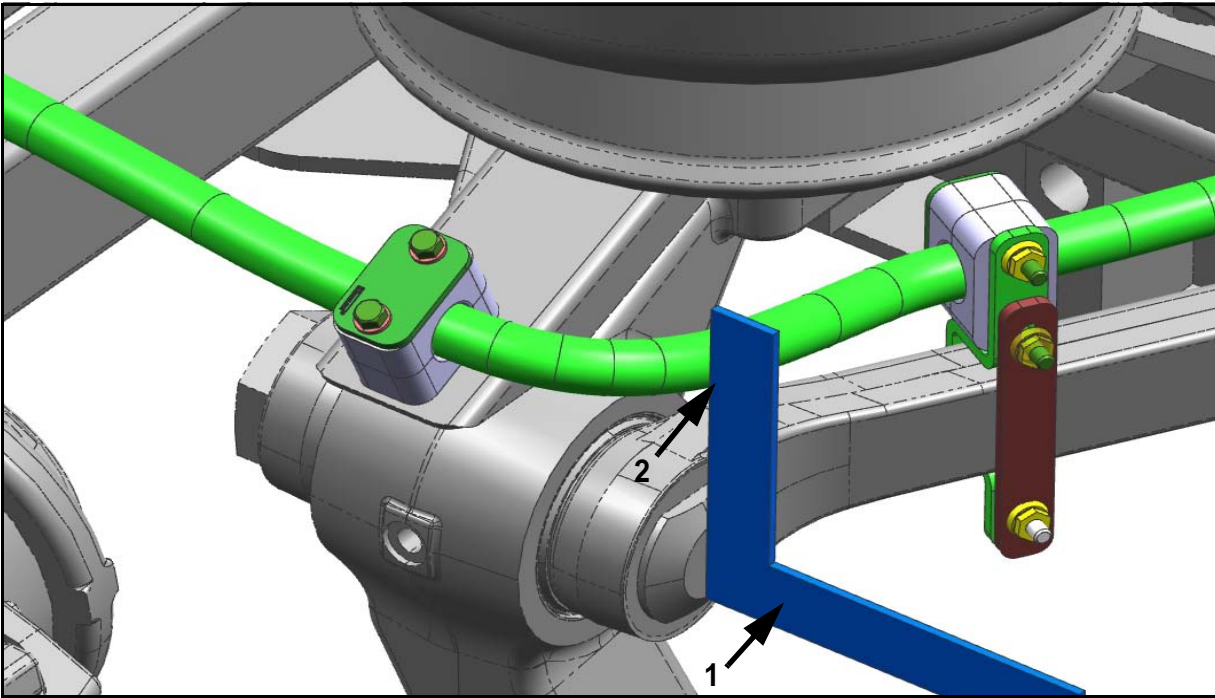

Figure 13.
24. Position a square across the face of the suspension arm bolt head (refer to Figure 13). Using a measuring tape, ensure that there is a minimum clearance of 0.06 inch between the edge of the front brake hose assembly and the edge of the square.
Item	Figure 13 Description